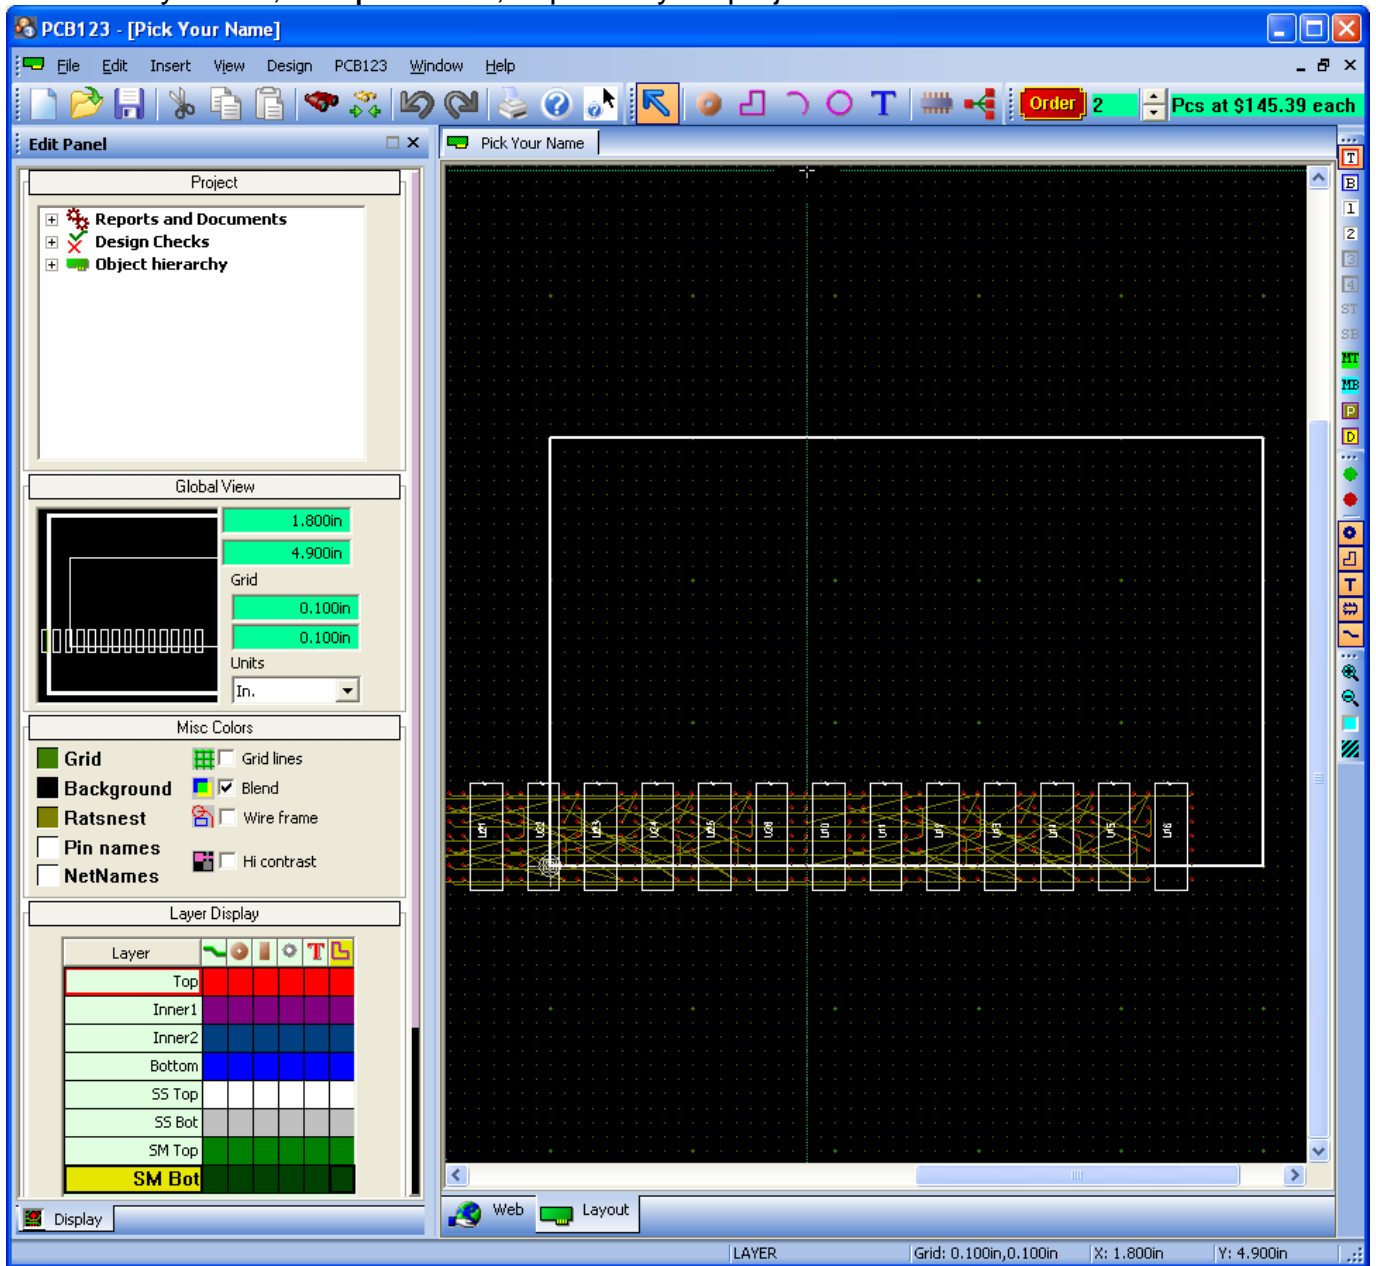

Figure 4: Initially Loaded Components with Zoom Entire
8. Perform a **Zoom Entire** by hitting the **Home** key (*Figure 4*) on your keyboard (make sure **Num-Lock** key is off).